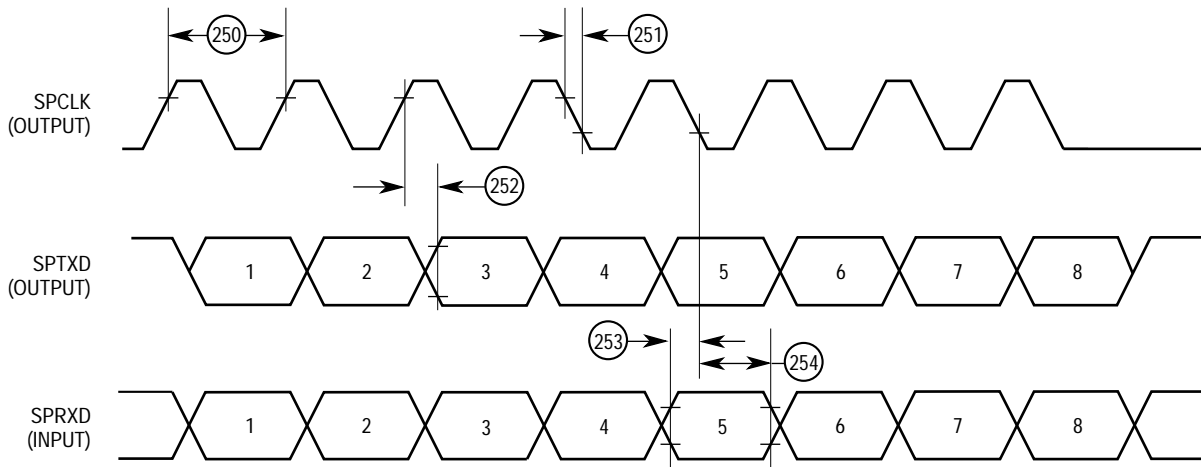

Figure 6-18. Serial Communication Port Timing Diagram
6.18 AC ELECTRICAL SPECIFICATIONS—SERIAL COMMUNICATIONS PORT (see Figure 6-18).